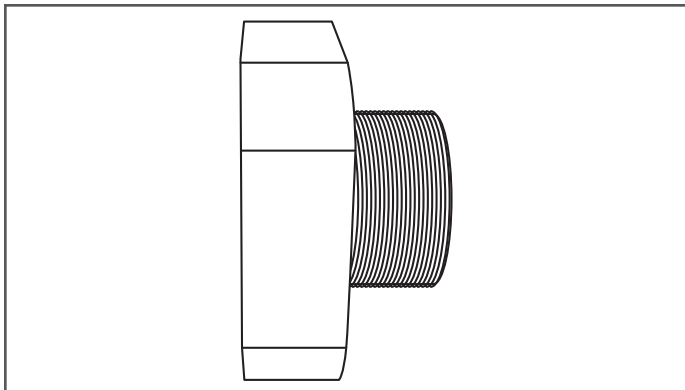

Figure 7-11
- 12.** Inspect front section of DoubleTrac® fitting. Ensure the fitting does not have any damage to NPT threads or front adaptor (Figure 7-11).